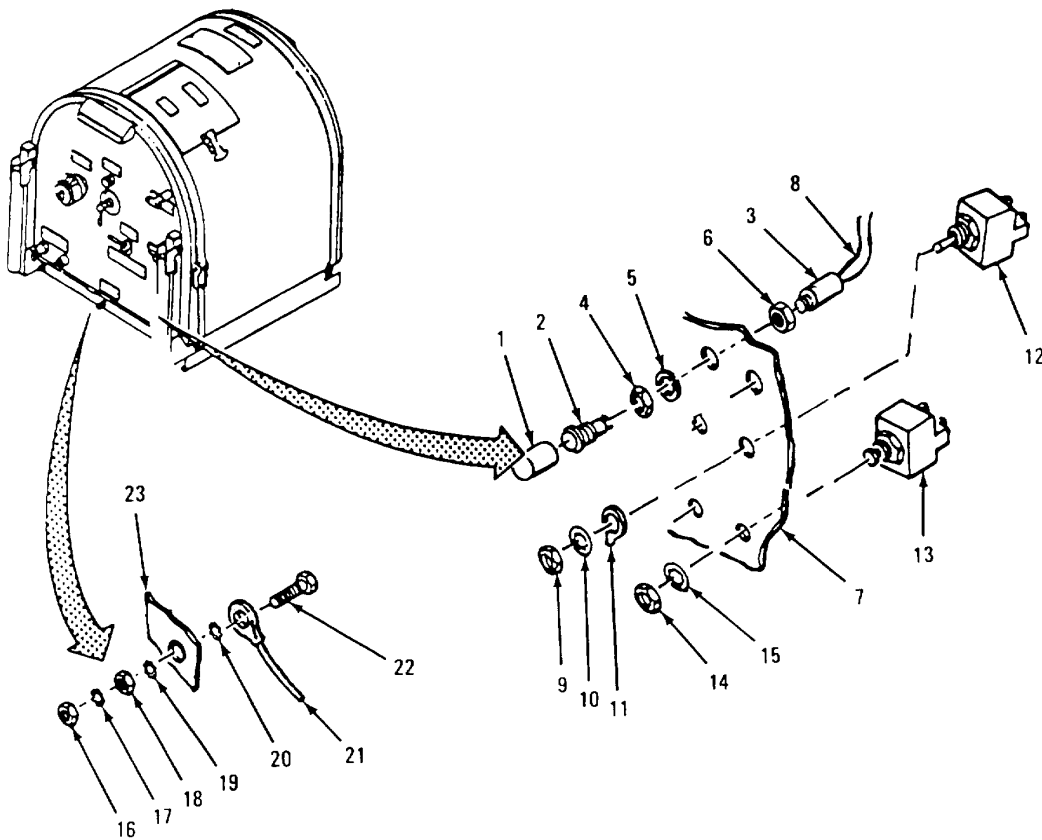

Figure 4-10. Lights, Toggle Switches, and Circuit Breaker Replacement
(2) Removal.
- (a) Tag and remove wires from terminal block (6).
- (b) Remove terminal block (6) from frame (7) by removing four screws (8), four star washers (9), and four nuts (10).
(3) Installation.
- (a) Position terminal block (6) on frame (7) and secure with four nuts (10), four star washers (9), and four screws (8).
- (b) Secure tagged wires to proper terminals on terminal block (6) as noted during removal.
c. Lights.(1) Inspection. (Refer to Figure 4-10)
- (a) Unscrew lens cover (1), then remove bulb (2) from indicator lamp (3).
- (b) Remove outer nut (4) and washer (5) from indicator lamp (3).
- (c) Remove indicator lamp (3) from front panel (7).
- (d) Tag and unsolder leads (8) from indicator lamp (3).
- (a) Solder leads (8) on indicator lamp (3) as noted during removal.
- (b) Position indicator lamp (3) in panel (7) and secure with washer (5) and outer nut (4).
- (c) Insert bulb (2) into indicator lamp (3).
- (d) Replace lens cover (1) by screwing it onto indicator lamp (3).
d. Toggle Switches.(1) Inspection. (Refer to Figure 4-10)
- (a) Remove outer nut (9), star washer (10), and locking ring (11) from toggle switch (12).
- (c) Remove toggle switch (12) from front panel (7).
- (a) Secure wire leads to proper toggle switch (12) terminals as noted during removal.
- (b) Position toggle switch (12) in front panel (7) and install locking ring (11) with slot in toggle switch (12) and hole in front panel (7), star washer (10), and outer nut (9).
e. Circuit Breakers.(1) Inspection. (Refer to Figure 4-10)
g. Grounding Stud. (Refer to Figure 4-10)
(1) Removal.